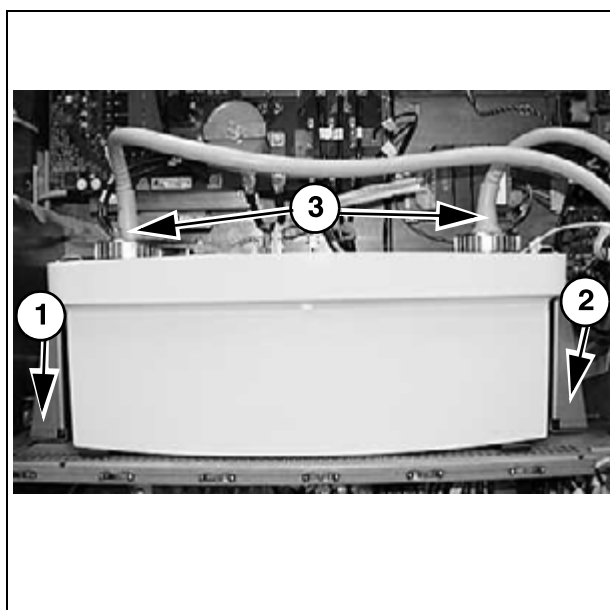
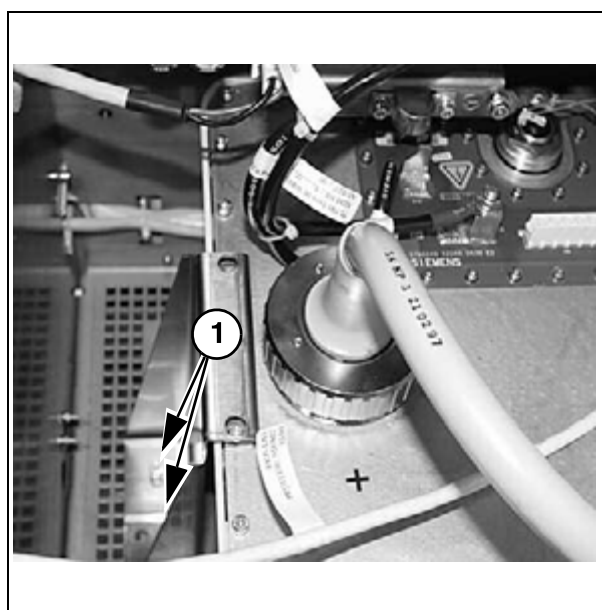

Fig. 10:
Fig. 11:
- Remove the mounting bracket screws (1/Fig. 11 / p. 20) on the left and right and remove the mounting bracket (1, 2/Fig. 10 / p. 20).
- High voltage cables (3/Fig. 10 / p. 20).
- Insert the high voltage cable (3/Fig. 10 / p. 20) (insert the new corona disks moistened with silicon oil).
- Tighten the collar on the high voltage cable (3/Fig. 10 / p. 20) and secure it.